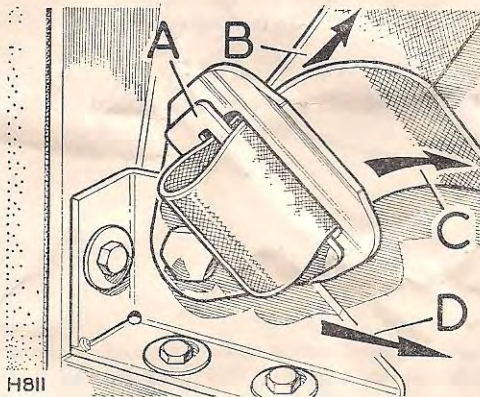

Fig. 8 Showing adjustment of shoulder strap buckle at sill bracket, right-hand illustrated
12. Then adjust the diagonal strap at the adjustment buckle fitted to sill bracket, by relieving the retaining bar 'A' and pulling strap in the direction of arrow 'B' to lengthen, and in the direction of arrow 'C' to shorten. See Fig. 8.